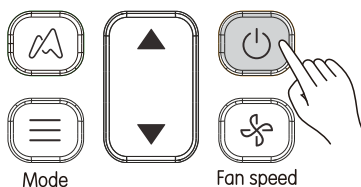

Figure 3.3
1) Press  (see Figure 3.3), Indoor unit starts to run;